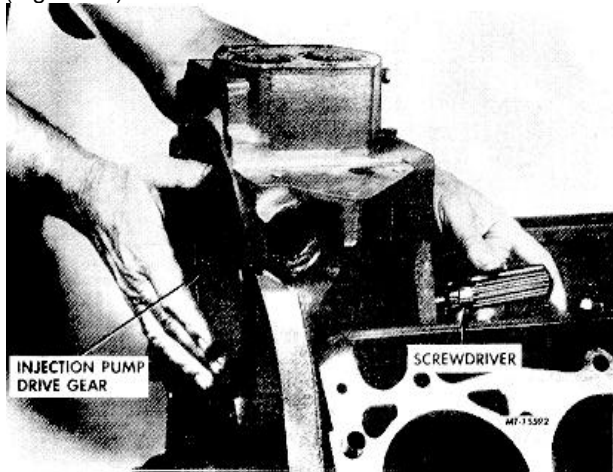

Fig. 59 Removing Injection Pump Drive Gear
52. Remove the injection pump drive gear mounting capscrews and lockwashers. With the use of a screwdriver, remove injection pump drive gear by inserting screwdriver in the injection pump oil return hole in back of gear housing and push drive gear off shaft (Figure 59).